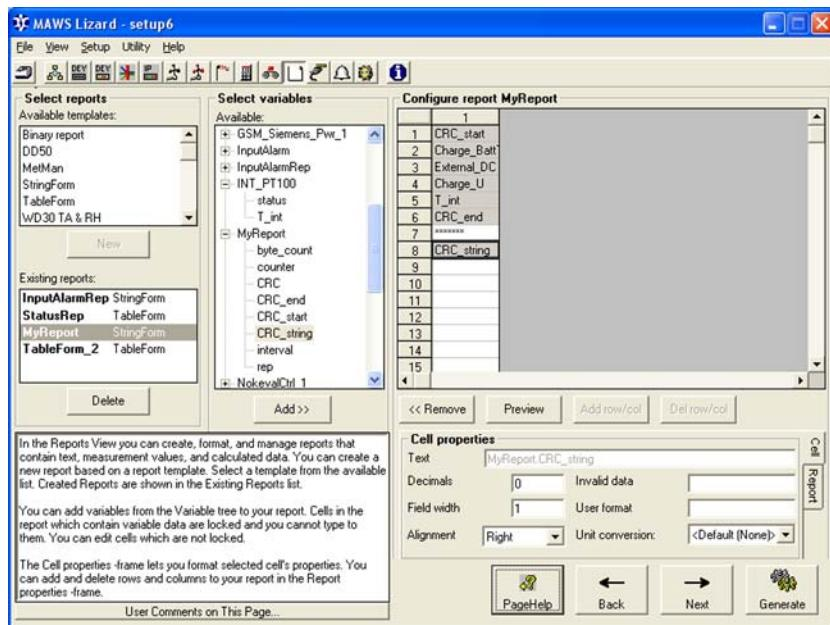

Figure 81 Reports View: Adding CRC
1. Go to the **Reports** view as shown in Figure 81 on page 168.